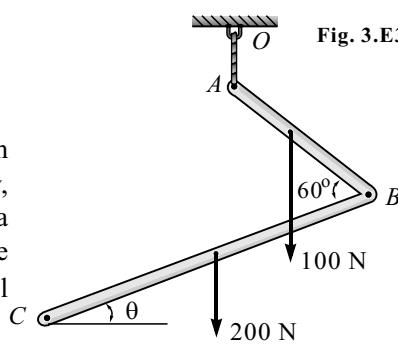

Fig. 3.E32
33. A pulley of 1 m radius, supporting a load of 500 N, is mounted at B on a horizontal beam as shown in Fig. 3.E33. If the beam weighs 200 N and pulley weighs 50 N, find the hinge force at C .